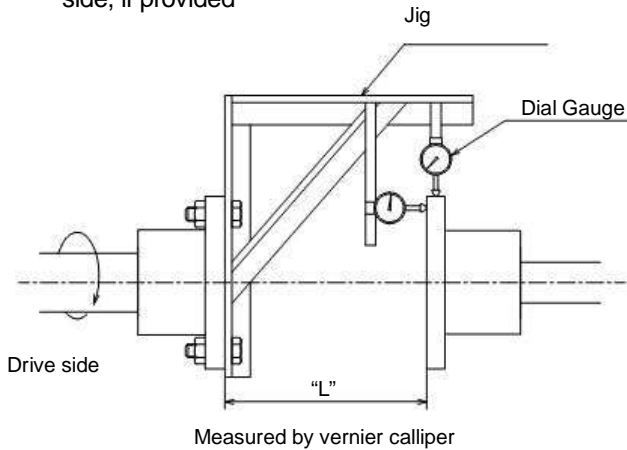

Fig. 4-4
- c) Mount the dial indicators, as shown on Fig. 4-4, ensuring the bracket is rigid and long enough to extend across the space between the coupling hubs, on the driver side coupling.
- d) Rest the dial indicator' probe on the outer diameter of the pump side coupling as shown on Fig. 4-4. Rotate the driver shaft by hand and take reading of dial indicator at every quarter turn to check parallel alignment.
- g) Rest the dial indicator probe, on the coupling face as shown on Fig. 4-4 for angular alignment. Rotate the driver shaft and take reading of dial indicator in accordance with the same method as the parallel alignment.